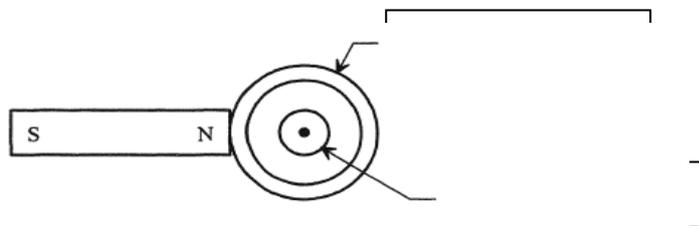

Figure 8
- Place a steel ring against any pole of one of the rectangular bar magnets, then drop a drawing pin into the centre of the ring as shown in Figure 8.